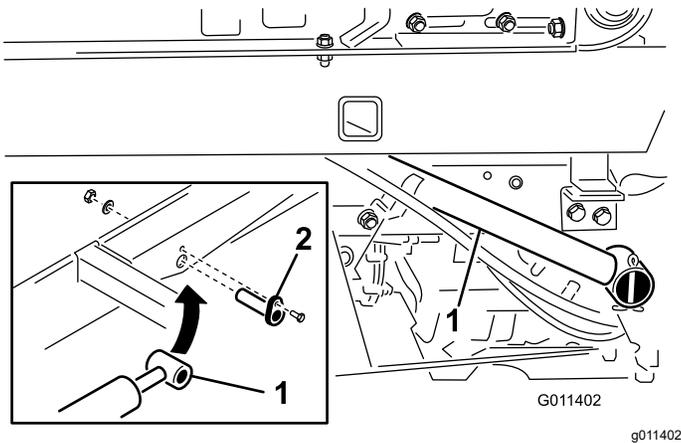

Figure 12
1. Secure each lift cylinder rod end to topdresser base with a cylinder pin (Figure 12).
2. Secure each cylinder pin to the topdresser base with a cap screw (1/4 x 3/4 inch), a flat washer, and a nut (Figure 12).